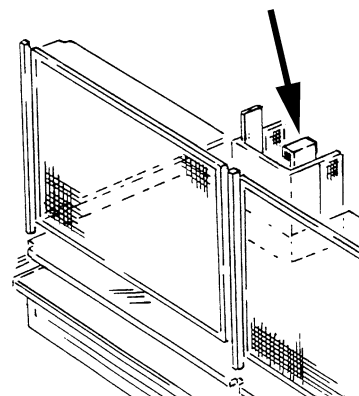

Fig.6-12 Proximity switch
5. Check that the proximity switch is mounted. See fig.6-12.